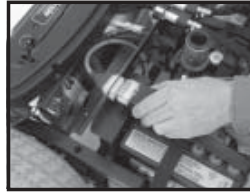

Figure 18. Front-To-Rear Harness
- Unplug the front-to-rear harness. See figure 18.